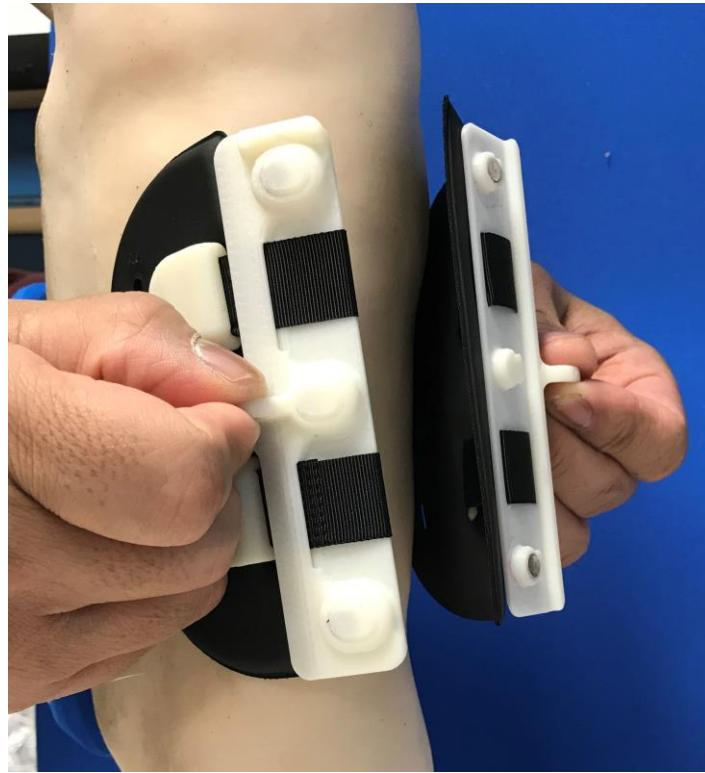

Figure 10. Placement – Loosen Strap; Grasp handles. Place around leg. Snap to fasten
5. Once the magnetic clasp is closed, tighten the hook and loop straps to secure the Cirvo Device in place. You will further adjust the tension of the straps using the Cirvo App (see **Figure 10**).